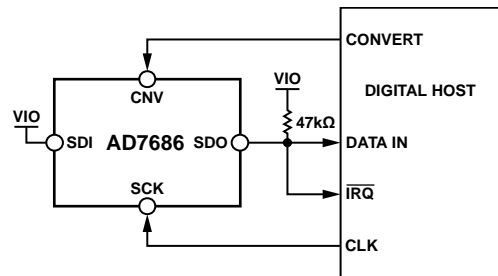
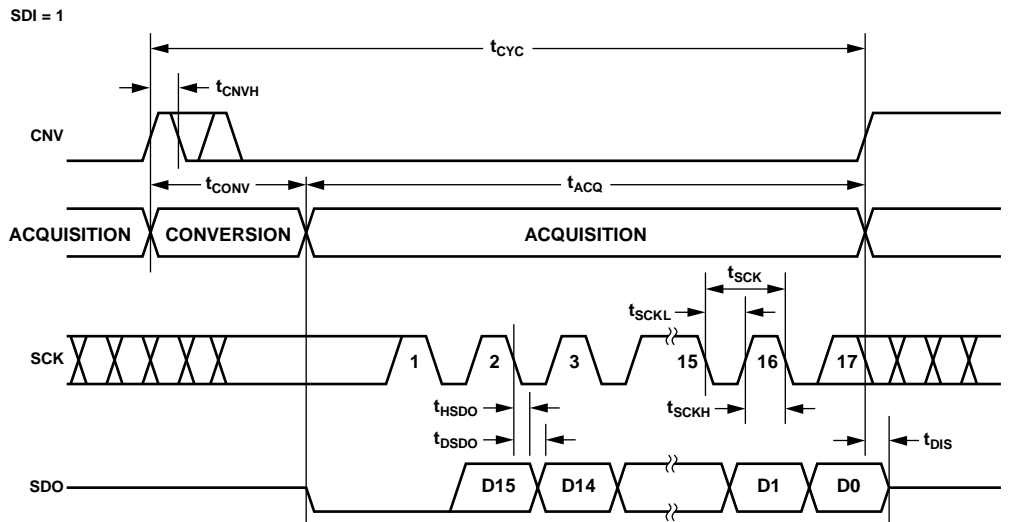
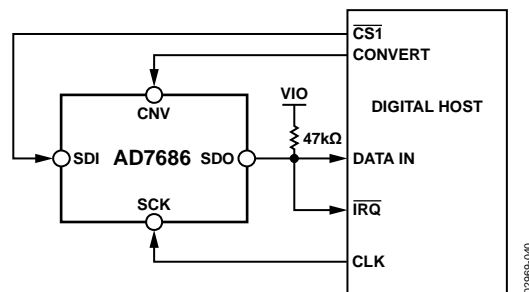
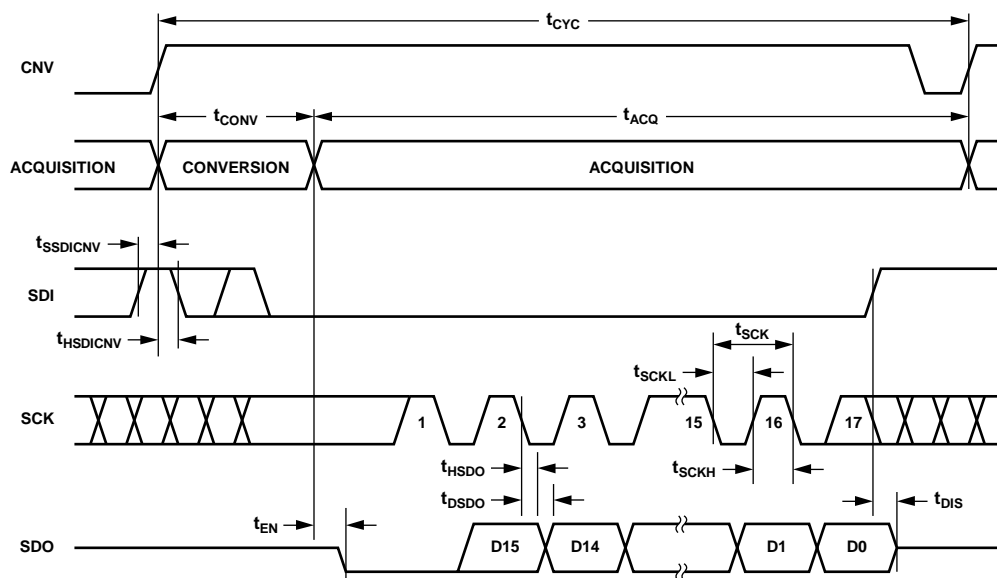

Figure 35. \overline{CS} Mode 3-Wire with Busy Indicator Connection Diagram (SDI High)
Figure 36. \overline{CS} Mode 3-Wire with Busy Indicator Serial Interface Timing (SDI High)
Figure 39. \overline{CS} Mode 4-Wire with Busy Indicator Connection Diagram
Figure 40. \overline{CS} Mode 4-Wire with Busy Indicator Serial Interface Timing
- In \overline{CS} mode, if CNV or SDI is low when the ADC conversion ends (see Figure 36 and Figure 40).
This mode is generally used when a single AD7686 is connected to an SPI-compatible digital host having an interrupt input. The connection diagram is shown in Figure 35, and the corresponding timing is provided in Figure 36.
This mode is usually used when a single AD7686 is connected to an SPI-compatible digital host, which has an interrupt input, and when it is desired to keep CNV, which is used to sample the analog input, independent of the signal used to select the data reading. This requirement is particularly important in applications where low jitter on CNV is desired. The connection diagram is shown in Figure 39, and the corresponding timing is provided in Figure 40.